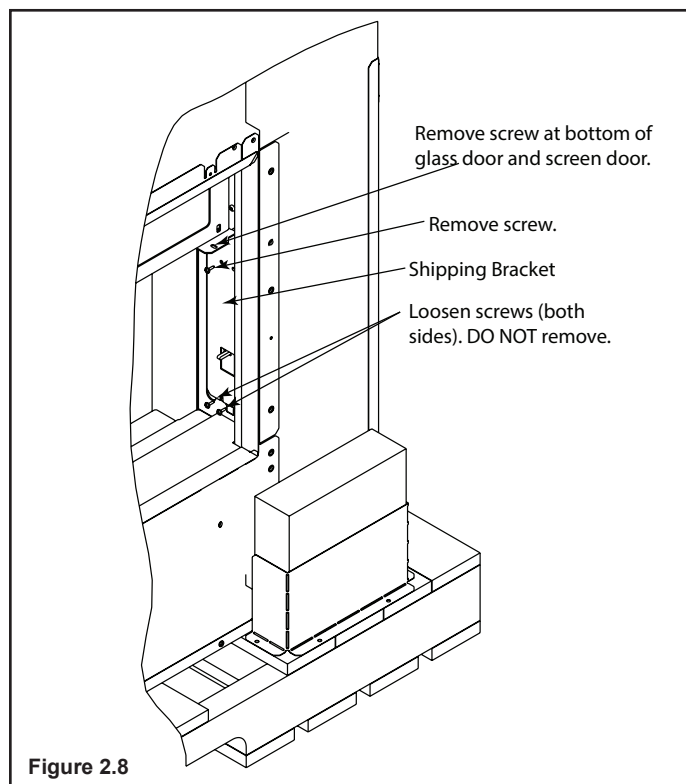

Figure 2.8
- n. Locate the (4) screws (2 on each end) that hold the door and screen to the shipping bracket and remove and discard them.*(see figure 2.8)
- r. Repeat for the other side. See Figure 2.8.